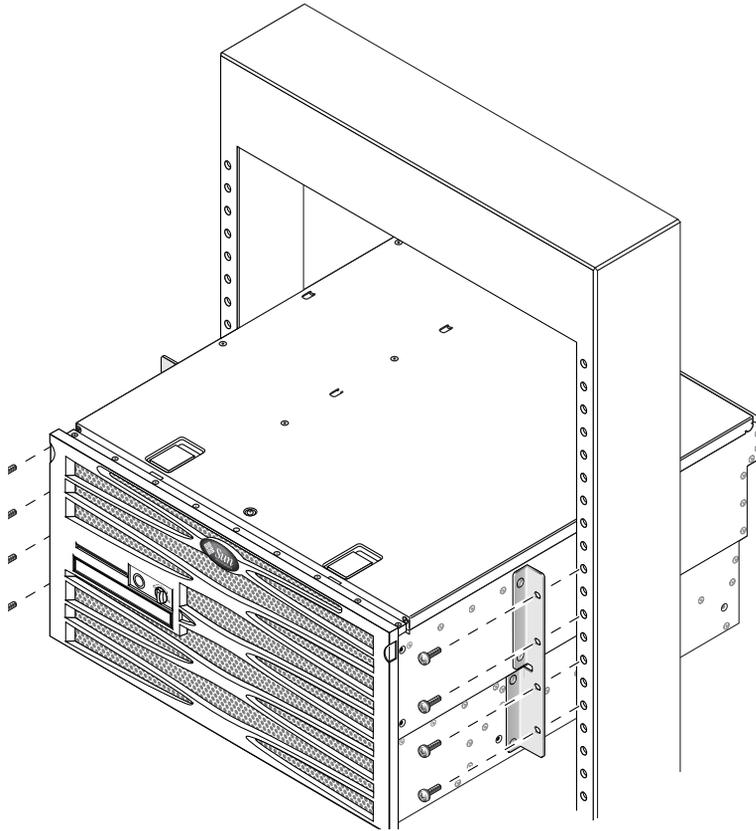

FIGURE 3-26 Installing and Securing the Server in the 2-Post Rack
4. Using four screws for each bracket, secure the front of the server to the front of the rack (FIGURE 3-26).